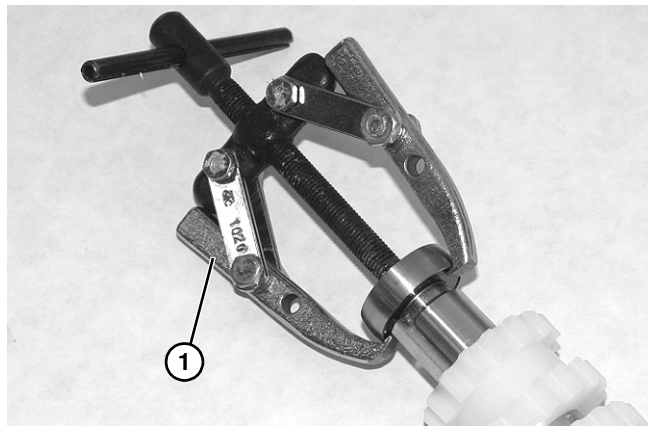

Figure 55
2. Use bearing removal tool (807-1078) (**Figure 55, item 1**) to remove bearings from drive pulley.